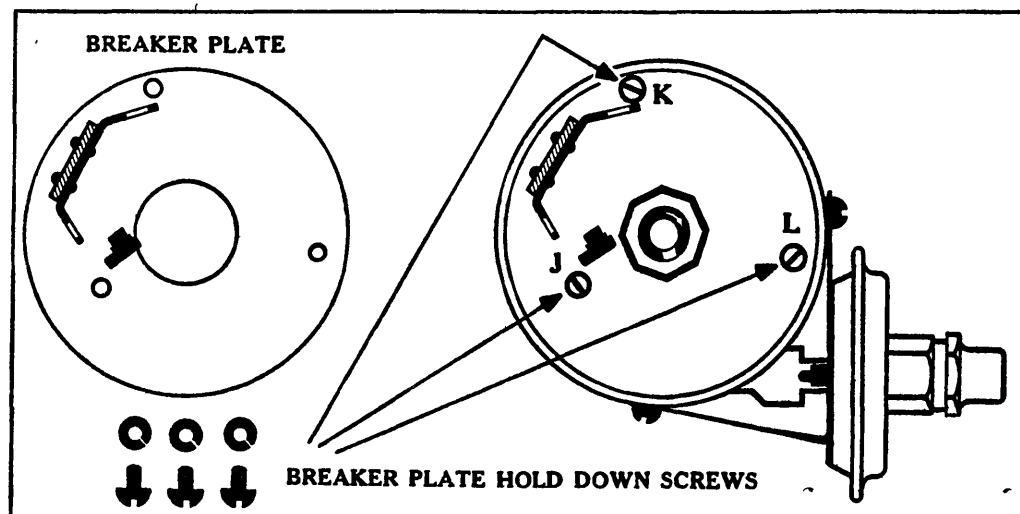

Fig. 7
7. Remove the remaining blued breaker plate hold-down screws ("J", "K" and "L", Fig. 7), firmly grasp the breaker arm pivot stud by the thumb and forefinger, and carefully lift the breaker plate assembly up and out of the distributor cup.